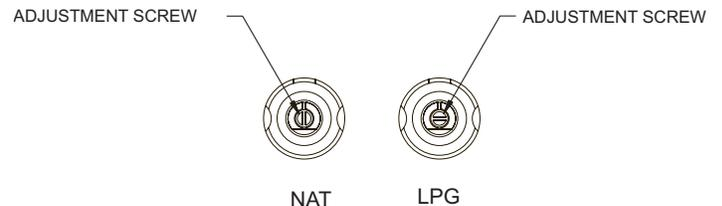

Figure 38
5. Blue Flame Burner: Place burner shield and burners into grill and insert burner tubes over orifice fittings. Secure each burner with one (1) 1/4-20 x 3/4 phillips screw from Step 2. Infrared Burner: Place infrared burners, ignitor, and lugs into grill and insert burner tubes over orifice fittings. Secure each burner with one (1) 1/4-20 x 3/4 phillips screw from step 2.
7. The low input adjustment screws are located inside the two valve stems. Use a small screwdriver to turn each adjustment screw clockwise 1/4 turn (90 degrees). When valves are in the "OFF" position, the slot in the adjustment screw should be vertical. **See Figure 38.**